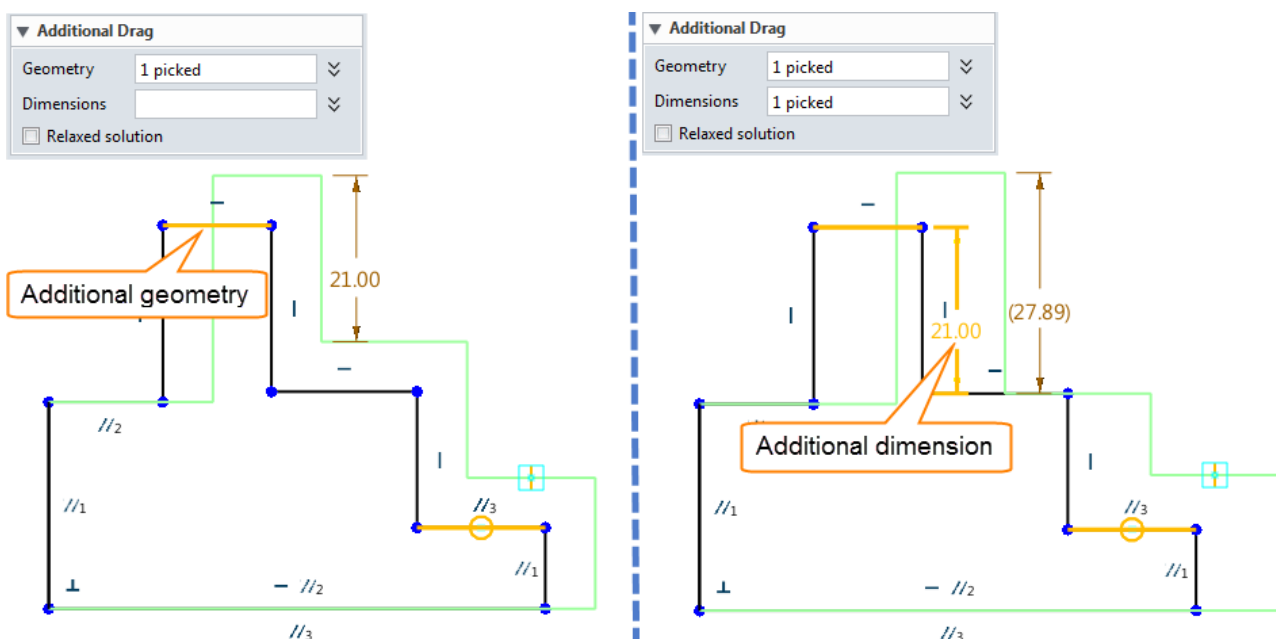

Figure 72 Additional Drag
- 1) Take this case for example, if you want to drag more geometry together, please select the additional geometry in geometry input box. See the left image of Figure 72.
- 2) If you want to drag some dimensions together, you could define the additional dimension; see the right image of Figure 72.